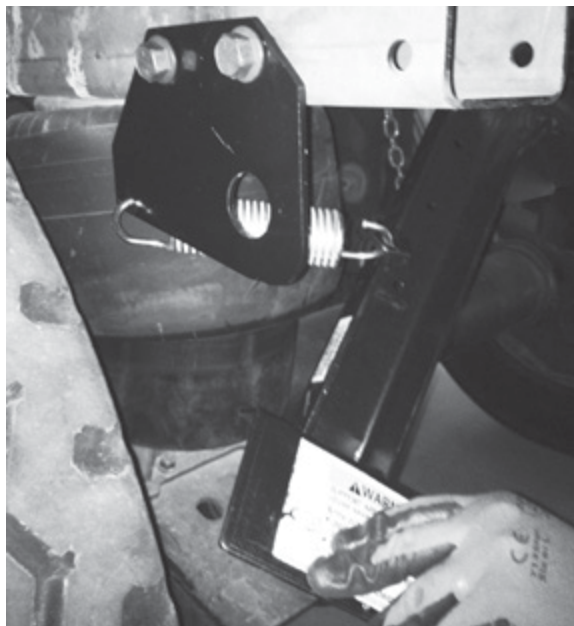

Figure 11: Arm raised above rail for spring installation
3. Lift roadside end of the support arm assembly, with attached spring, to roadside bracket and insert the other end of spring into spring hole of the roadside bracket (Figure 11).
**NOTE:** To gain access and attach the spring in Step 3, the top of the roadside arm on the support arm assembly (Figure 11) must be raised up above the slider rail.